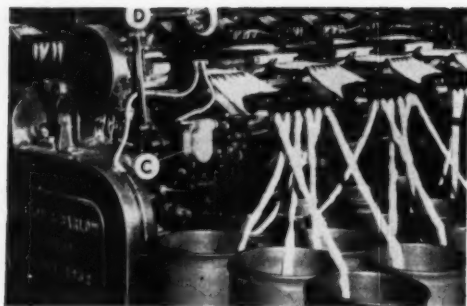

FIG. 1 APPLICATION OF CENTRALOGRAPH TO DRAWING FRAMES (C is the machine contact and D is the dial for selecting work-stoppage cause.)
**The Machine Contact.** An electric contact is mounted on each of the machines the Centralograph has to check, Figs. 1 and 2. These machine contacts are connected individually to the recorder through a system of cabling. Contacts on machines in productive operation automatically transmit electrical impulses to the central instrument. The impulses activate small tracing pins or hammers, which record the diagrams on the chart paper. The machines supervised are recorded side by side on the continuously moving paper. The chart is known as the "centralogram."